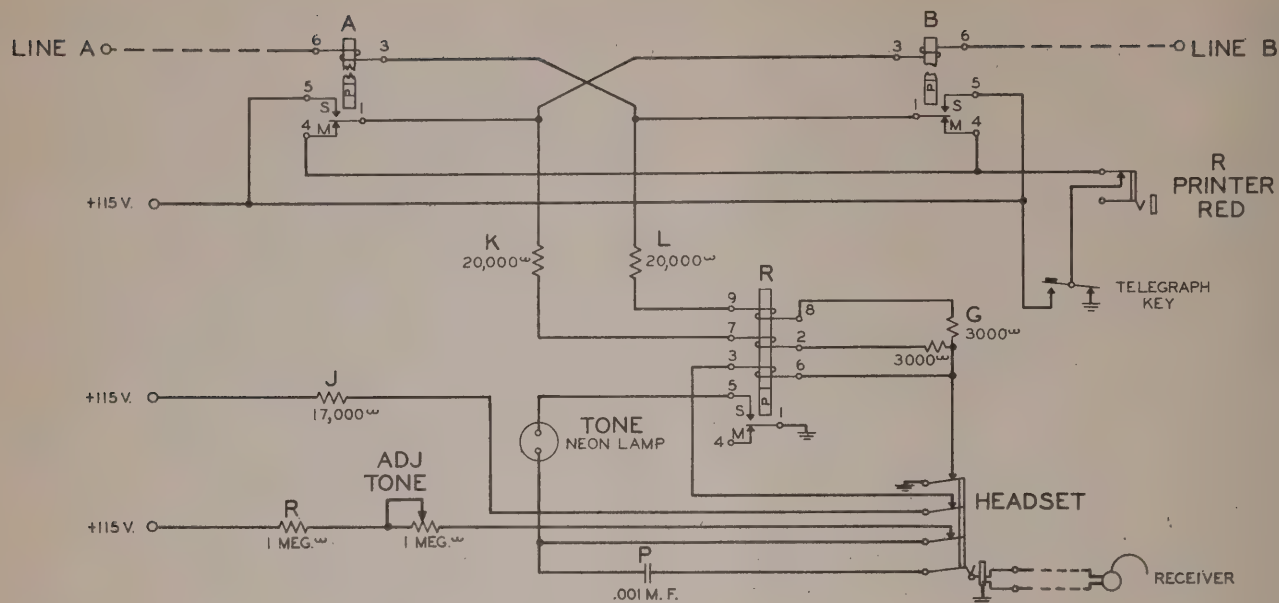

Figure 9 - Schematic of manual telegraph set,
27. MANUAL TELEGRAPH SET CIRCUIT OPERATION (FIG. 9).—The manual telegraph set circuit makes use of the repeater circuit as regards the line receiving-relay functions. The telegraph key is a pole-changer key and it applies ground for marking and positive 115 volts for spacing via the line windings of relay A and relay B in the same manner as relay A or relay B sends to the line. Relay R follows the sending from the telegraph key and produces a local signal. The manual telegraph circuit becomes operative when the headset is connected to the HEADSET jack and the printer cords are removed. The tone is produced by an oscillating circuit consisting of a